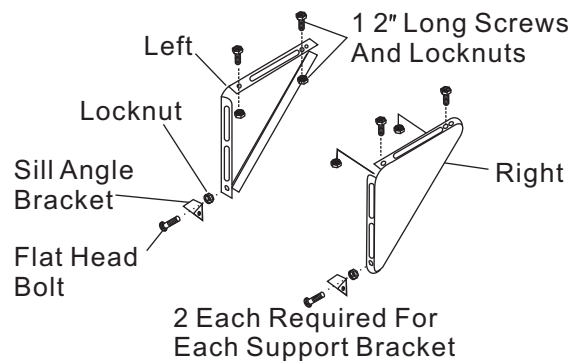

Fig.15B
2. Assemble sill angle bracket to support brackets at the marked position(Fig.15B). Hand tighten, but allow for any changes later.